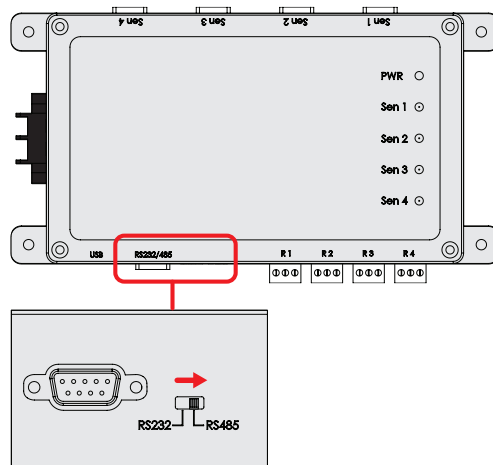

Figure 6. Changing control box output to support RS485 connection
4. Select the Serial output Switch on the control box (refer to Figure 6) to RS485.